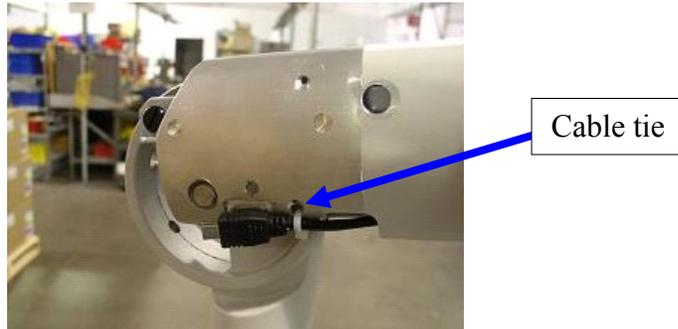

Figure 40
2. Locate the cable tie that holds the end of the USB cable to the articulating arm – see Figure 40 on page 25.